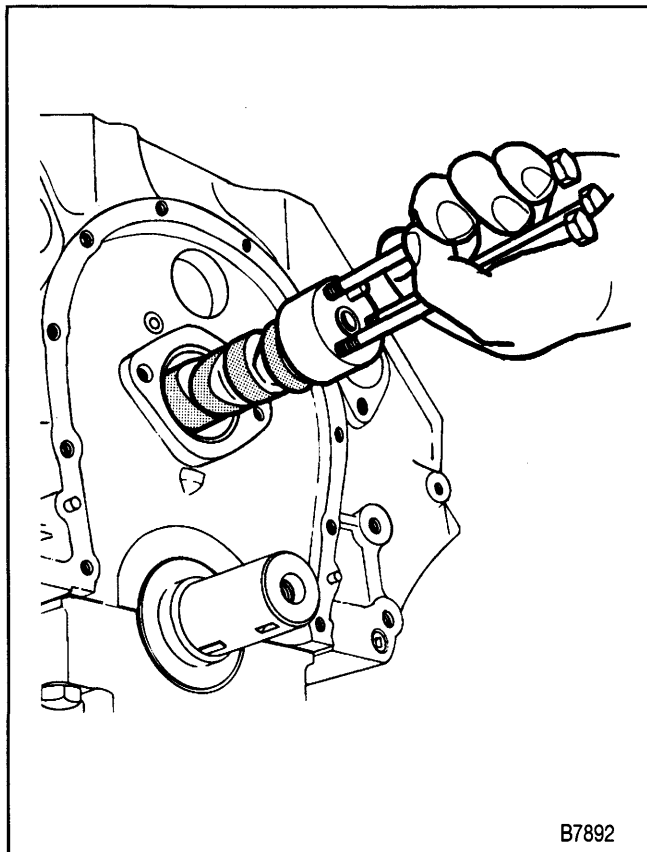

Figure 23—Replacing the Camshaft
- Install two or three 5/16-18 bolts 100-125 mm (4-5 inches) long into the camshaft threaded holes. Use these bolts to handle the camshaft (figure 23).
- 2. Camshaft in the engine (figure 23). Handle the camshaft carefully to prevent damage to the camshaft bearings.